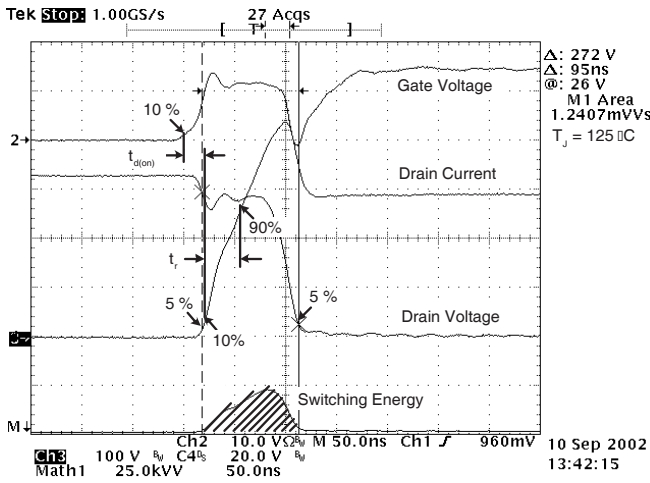

Figure 18, Turn-on Switching Waveforms and Definitions
① Repetitive Rating: Pulse width limited by maximum junction temperature
② Pulse Test: Pulse width < 380  $\mu s$ , Duty Cycle < 2%
③ See MIL-STD-750 Method 3471
④ Starting  $T_j = +25^\circ C$ ,  $L = 1.54mH$ ,  $R_G = 25\Omega$ , Peak  $I_L = 57A$
⑤  $dv/dt$  numbers reflect the limitations of the test circuit rather than the device itself.  $I_S \leq -I_D 57A$   $di/dt \leq 700A/\mu s$   $v_R \leq v_{DSS}$   $T_j \leq 150^\circ C$
⑥  $E_{on}$  includes diode reverse recovery. See figures 18, 20.